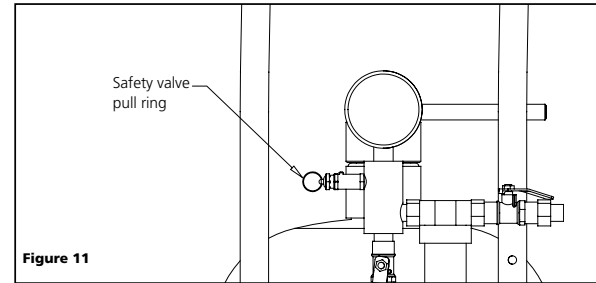

Figure 11
- Check the Safety valve by pulling the ring on the safety valve (see Figure 11). A high flow of air will be released from the valve and continually flow out. Look at the pressure gauge on the tank; the air pressure should decrease. If the air enters the tank faster than the air leaving the safety valve, the safety valve is blocked and needs to be replaced. Replace the safety valve with an exact replacement.